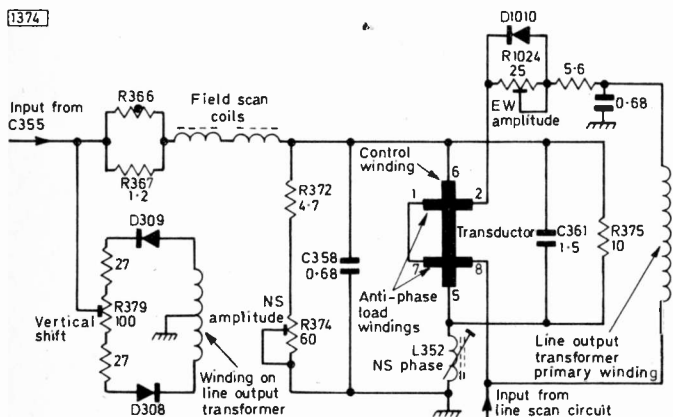

Fig. 2: The pincushion distortion correction circuit.
Fig. 2: (a) Voltage across C1 from switch-on. (b) Output voltage of i.c. at pin 3. (c) Voltage across the test capacitor Cx. (d) Current through Cx. The shaded area is the current measured by the meter.
The time between successive discharges of Cx (Fig. 2(d)) is equal to $t_1 + t_2$ (Fig. 2(a)).
Just as the time taken for a capacitor to lose one half of its charge was found to be $0.7 \times$ the time constant, so the time taken for a capacitor to charge to halfway between its initial and final values is also $0.7 CR$. Reference to Fig. 2(a) will show that this is the case with the interval t_2 . As C1 charges from its initial value of $\frac{1}{3} V_{cc}$ to the final value of V_{cc} , the charge is halted at the halfway point $\frac{2}{3} V_{cc}$. In this case, however, C1 charges via R1 and R2 in series and so $t_2 = 0.7 (R1 + R2) C1$.
Turning now to Cx, the average discharge current is the area under the curve (shaded in Fig. 2(d)) divided by the base line T.
Fig. 1: The field timebase circuit used in the Korting 55636 chassis which is fitted with a 20 in. 90° deflection angle self-converging PIL colour tube. A single transductor provides EW and NS pincushion distortion correction (see Fig. 2).
nevertheless a degree of pincushion distortion in both directions – top to bottom (NS) and side to side (EW). This requires compensation, and a single transductor circuit is used for this purpose (again in contrast to the Thorn 9000 chassis, which employs separate EW and NS pincushion distortion correction circuits). The circuitry involved is shown in Fig. 2.
On Fig. 2 last month the supply connections to IC4 were omitted. These are Pin 7 to 0V, Pin 14 to +5V with C25, a 0.01 μ F disc ceramic, connected across them.